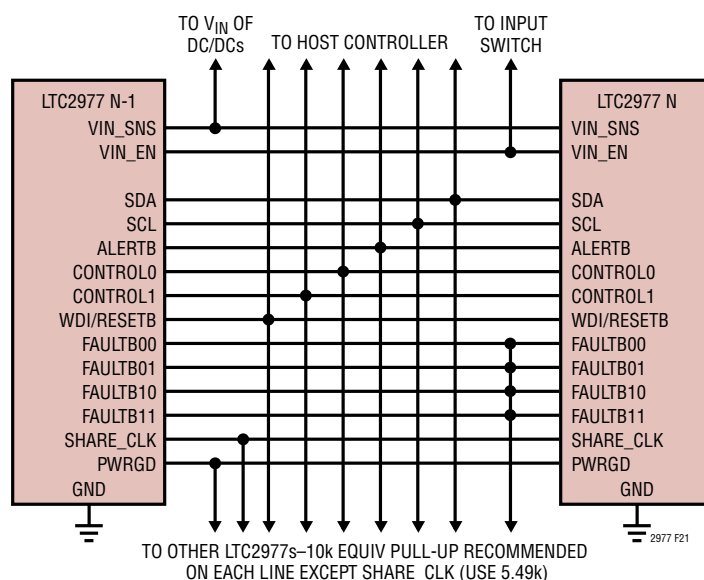
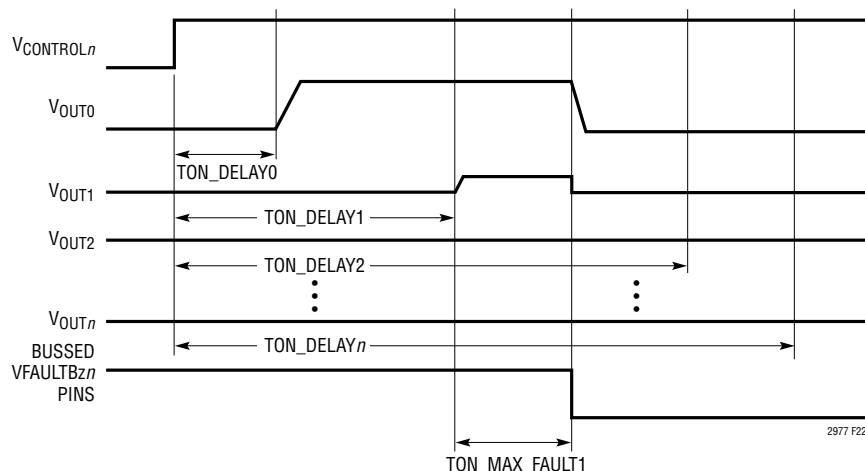

Figure 21. Typical Connections Between Multiple LTC2977s
Figure 22. Aborted On Sequence Due to Channel 1 Short
Figure 21 shows how to interconnect the pins in a typical multi-LTC2977 array.
- The FAULTB $_n$ lines can be connected together to create fault dependencies. Figure 21 shows a configuration where a fault on any FAULTB $_n$ will pull all others low. This is useful for arrays where it is desired to abort a start-up sequence in the event any channel does not come up (see Figure 22).